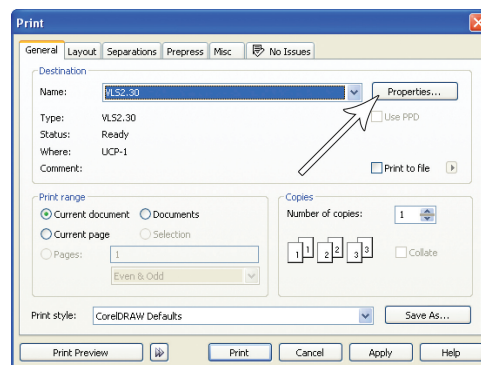
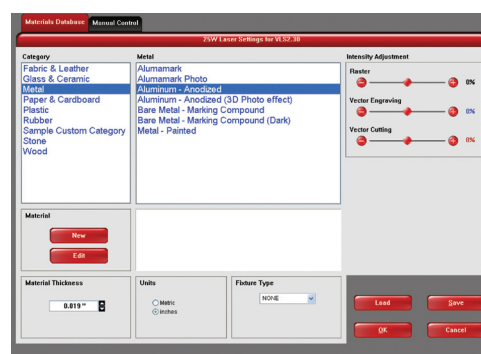

Figure 4
Figure 5
2. When you are ready to print the job, click FILE and then click PRINT. Make sure that your laser system appears in the DESTINATION NAME dropdown list, and then click PROPERTIES (Figure 4) to display the VLS system printer driver settings (Figure 5).
3. Choose your material, in this case metal, and then select the correct material type: Aluminum Anodized (Figure 5).
7. Now click on PRINT in the Print dialog window (Figure 4).